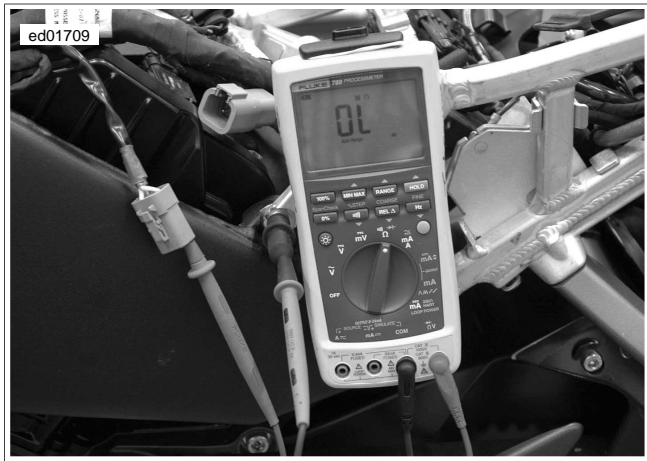

Figure 3-17. Test for Grounded Stator (typical)
2. See Figure 3-17 and connect an ohmmeter as follows: